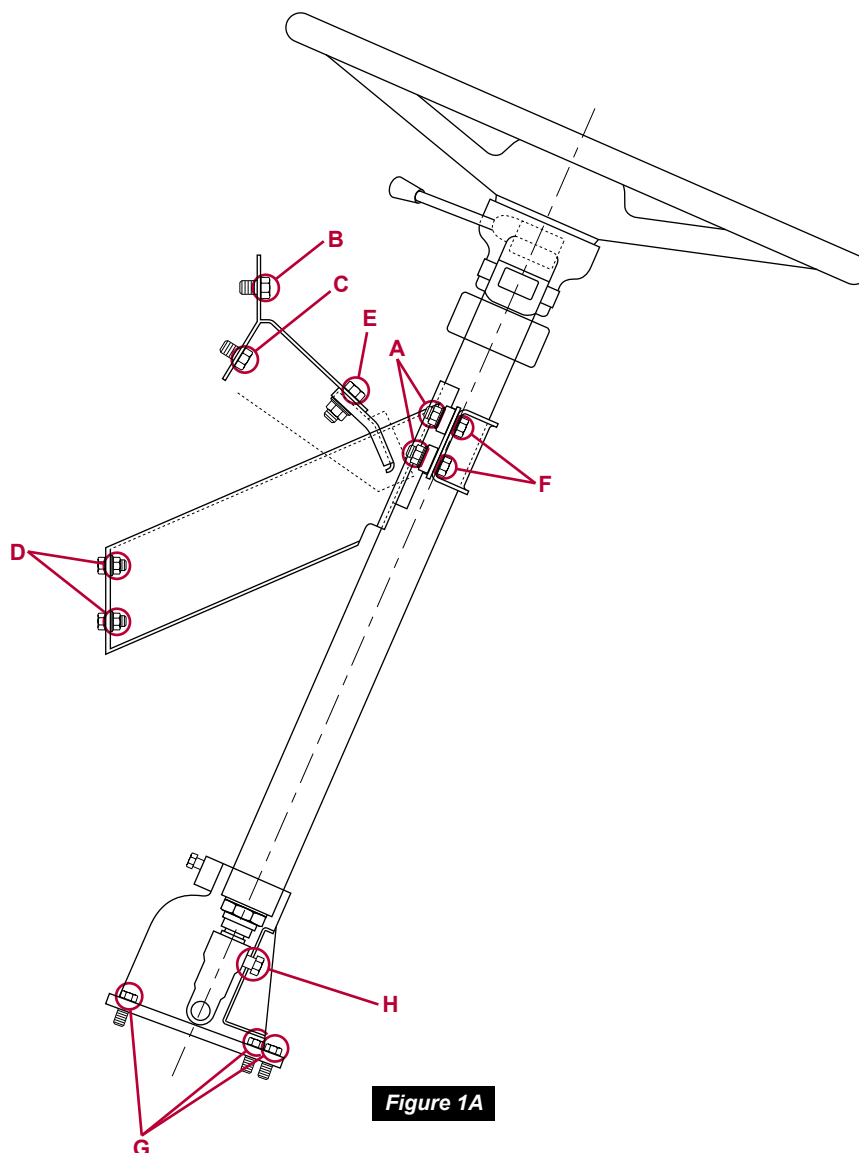
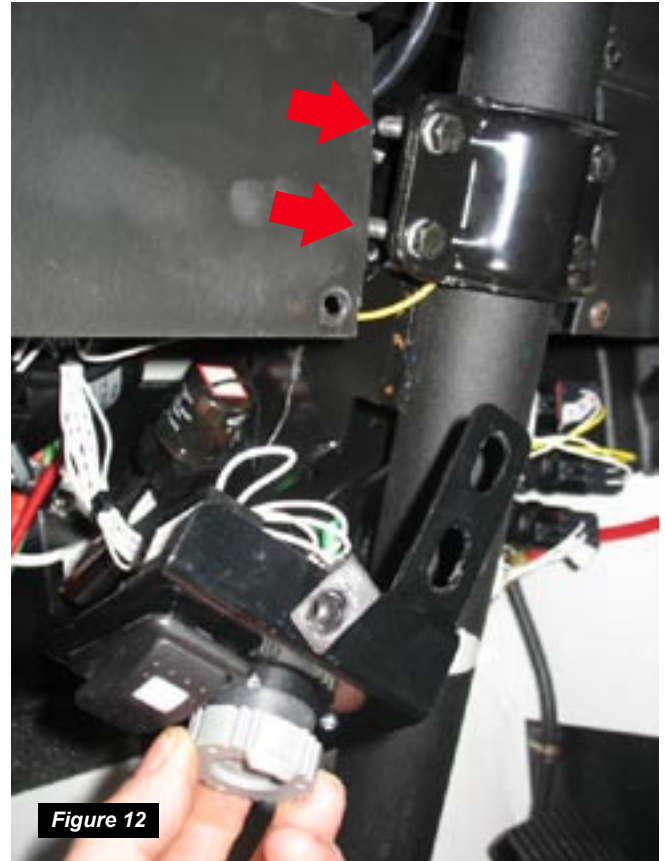

Figure 1A
Figure 12
Several steps in this repair procedure will reference the threaded fasteners securing the steering column to the mounting brackets, and securing the mounting brackets to the cab. The following fastener identification illustration (*Figure 1A*) has been provided to assist in locating each fastener as referenced by the repair procedure.
STEP 5: Using a 9/16" open-ended wrench, remove the (2) hex nuts (*Figure 1A, fastener A*) securing the diagnostic connector to the steering column (*Figure 5*).
STEP 6: Using a 1/2" socket, torque the (2) hex head cap screws (*Figure 1A, fastener B*) to 13 ft-lbs (± 2 ft-lbs) (*Figure 6*).
STEP 7: Using a 1/2" socket, torque the (2) hex head cap screws (*Figure 1A, fastener C*) to 13 ft-lbs (± 2 ft-lbs) (*Figure 7*).
STEP 8: Using a 1/2" socket, torque the (4) hex nuts (*Figure 1A, fastener D*) to 13 ft-lbs (± 2 ft-lbs) (*Figure 8*).
STEP 9: Using a 5/8" socket, torque the (2) hex head cap screws (*Figure 1A, fastener E*) to 55 ft-lbs (± 5 ft-lbs) (*Figure 9*).
STEP 10: Using a 9/16" socket, torque the (4) hex head cap screws (*Figure 1A, fastener F*) to 35 ft-lbs (± 3 ft-lbs) (*Figure 10*).
STEP 13: Using a 1/2" socket, torque the (4) hex head cap screws (*Figure 1A, fastener G*) to 18 ft-lbs (± 2 ft-lbs) (*Figure 11*).
STEP 15: Using the torque wrench with a 11/16" socket and the 5/8" box wrench, apply 60 ft-lbs (± 6 ft-lbs) to the universal joint pinch bolt (*Figure 1A, fastener H*).
STEP 17: Install the diagnostic connector on the steering column, using the (2) 9/16" hex nuts (Figure 1A, fastener A) that were removed in Step 5 (Figure 12).